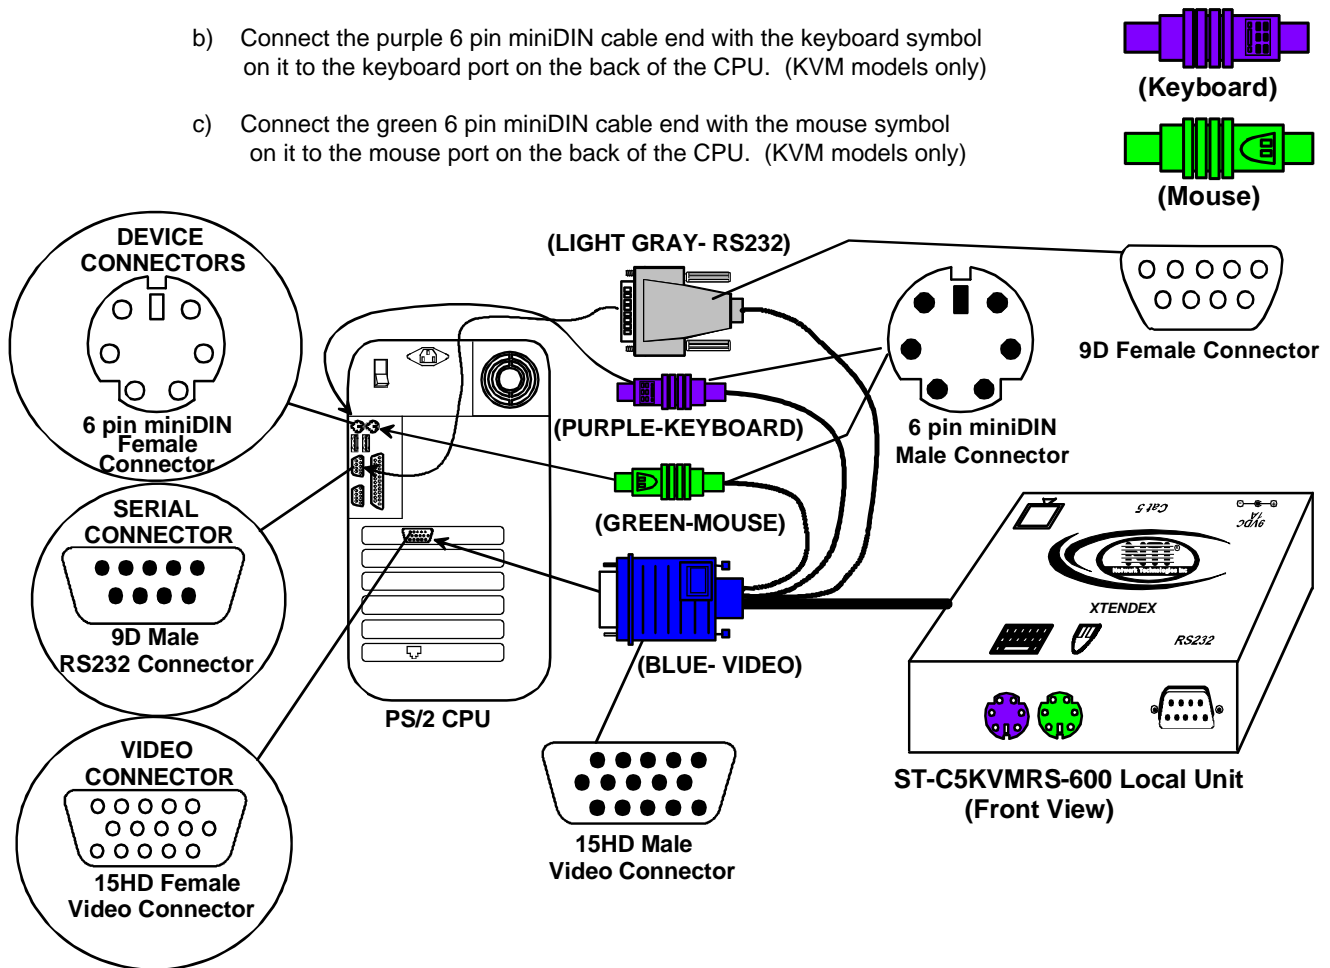

Figure 1- Connect the Local Unit with VGA video and RS232 support to the CPU
1. Plug the cables of the Local Unit into the back of the CPU. (See Figure 1.)